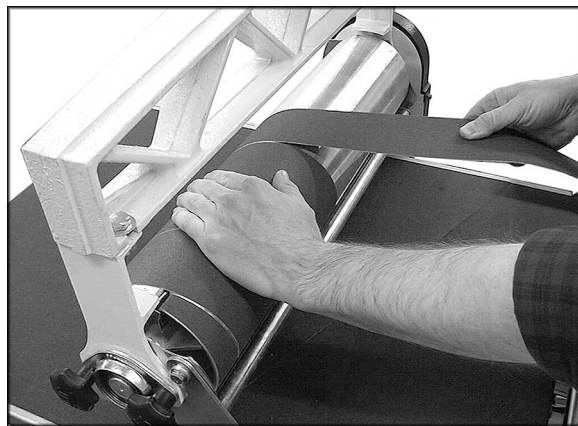

Figure 13
4. Continue to wrap the abrasive in a spiral fashion by rotating the drum with one hand and guiding the strip with the other (Figure 13). Successive windings of the strip should be flush with previous windings *without any overlap*.